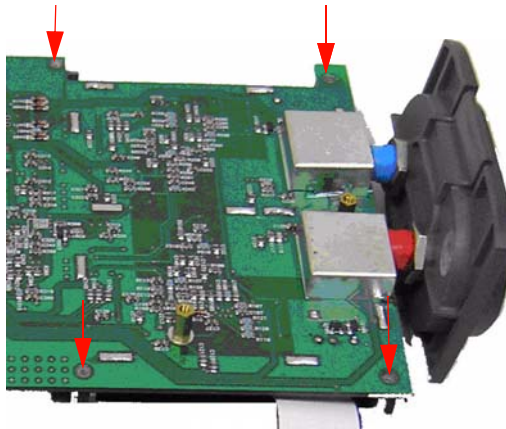

Figure 8-14 Remove four screw to dismantle the LCD display unit
- 2 Unscrew the four screw as located in the Figure 8-14.